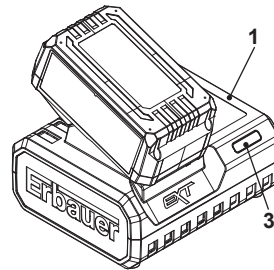

Fig. 4
The charging status indicator (3) on the charger (1) displays the charging status (Fig. 4).